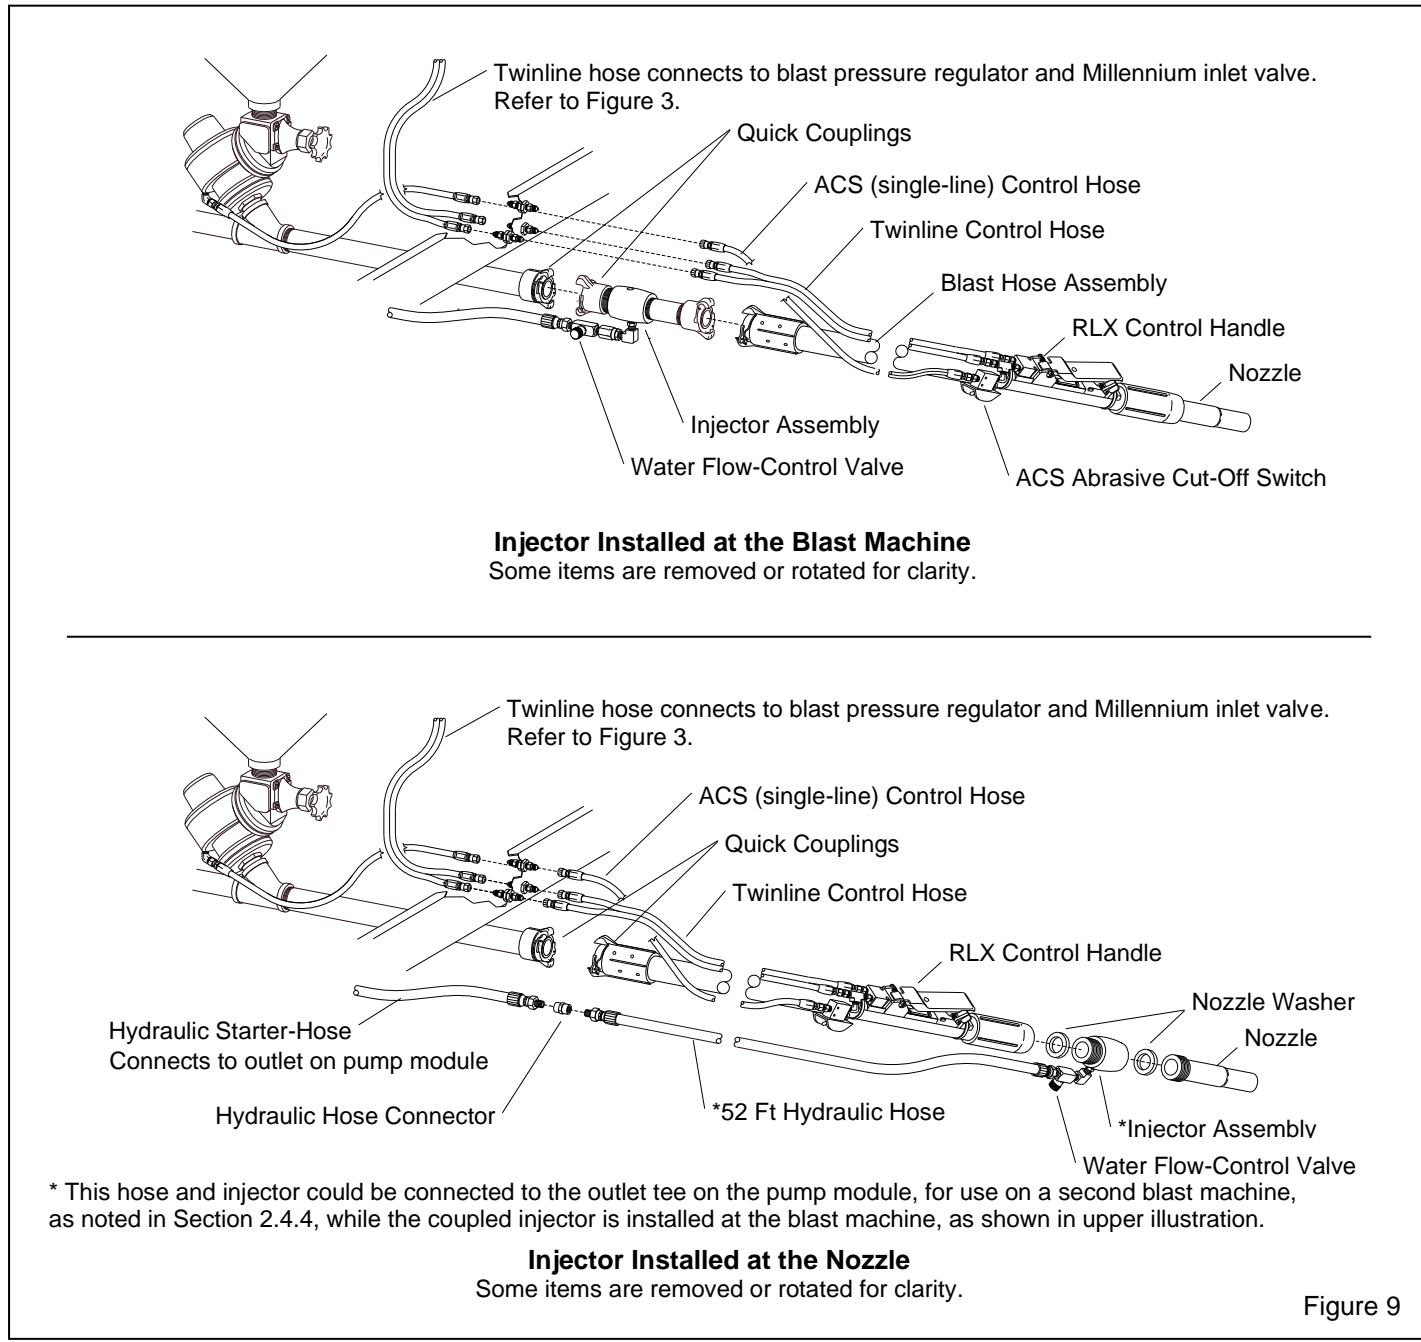

Figure 9
1.6.3.4 The water outlet tee is for attaching the hydraulic starter hose; this hose connects to the coupled injector assembly when using the injector at the blast machine, as shown in Figure 4 and Figure 9. The tee also has a plug on the unused leg; when using the nozzle injector with a separate (additional) blast machine, remove the plug and attach the hydraulic. Refer to Section 2.4.4.
2.4.1 The injector may be placed in one of two locations, as follows and, as shown in Figure 9.
Refer to the upper illustration in Figure 9.
2.4.2.1 The upper illustration in Figure 9 shows the injector installed onto a pipe assembly with quick couplings, and attached to the blast machine's blast hose connection. The benefits of this installation are:
2.4.2.2 Apply pipe thread sealant to the male threads on the hydraulic starter hose and screw the hose into the flow-control valve (installed on the injector assembly), as shown in the upper illustration in Figure 9.
Refer to the lower illustration in Figure 9.
2.4.3.1 The lower illustration in Figure 9 shows the injector installed at the nozzle. The benefits of this set up are:
NOTE: The Nozzle injector may also be installed on the blast hose of another separate blast machine; refer to the lower illustration in Figure 9, Figures 10, and 11, and Sections 2.4.4 and 4.10.
3.3.2.7 Apply pipe thread sealant to the male threads on the hydraulic hose and screw the hose into the flow-control valve (installed on the injector assembly), as shown in the lower illustration in Figure 9.